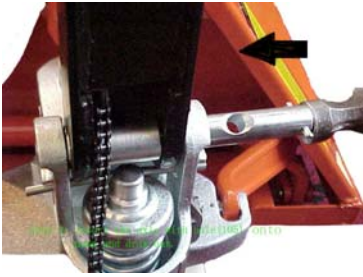

Fig. 2
2.1 Insert the draw-bar onto the pump piston (303), then use a hammer to insert the axle with hole (G105) into the hydraulic pump and draw-bar **from the right to left.** (See fig. 2).